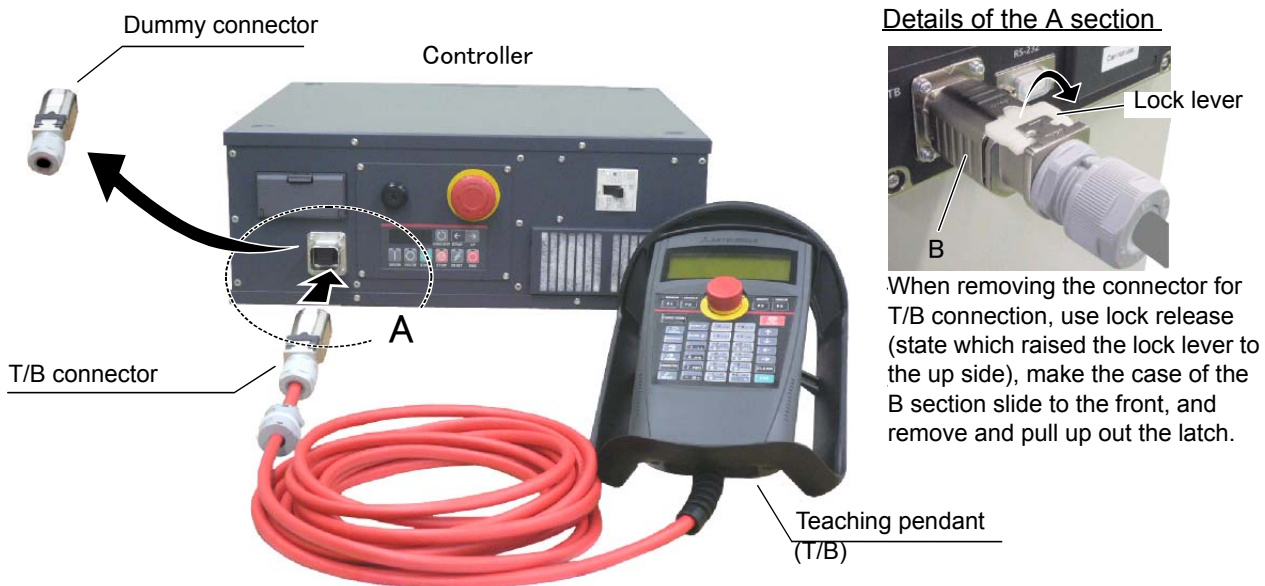

Fig.2-11 : Installing and removing the T/B (CR750 controller)
- 2) Connects T/B connector to the robot controller. Use as the upper surface the lock lever shown in Fig. 2-11, and push in until there is sound.